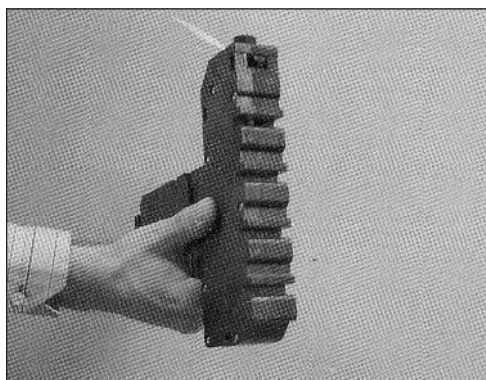

Fig 1
- Check the jaws on the connector, ensure that they are fully open (Fig 1).